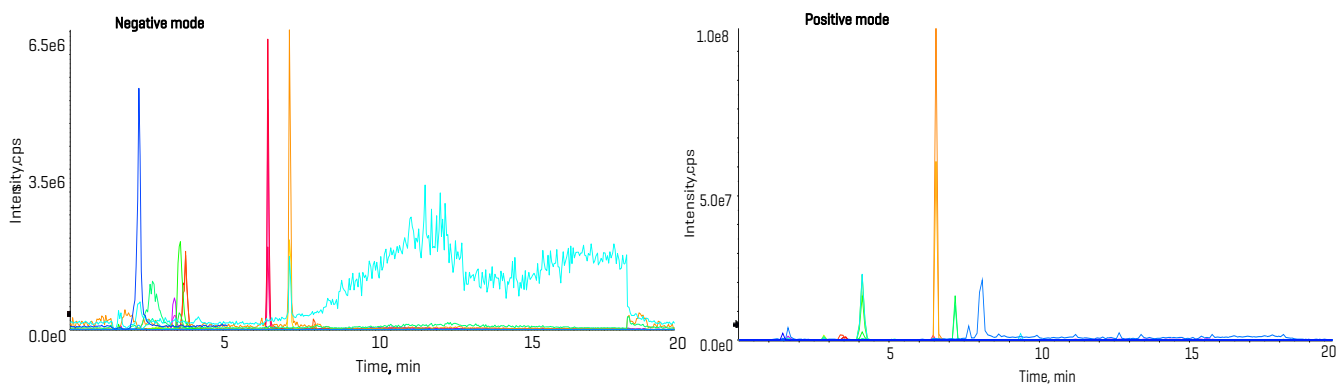

Figure 6-1. Representative XIC of the pooled sample with the QReSS standard mix added.
3. A representative XIC of analytes in the panel are shown in **Figure 6-1**.